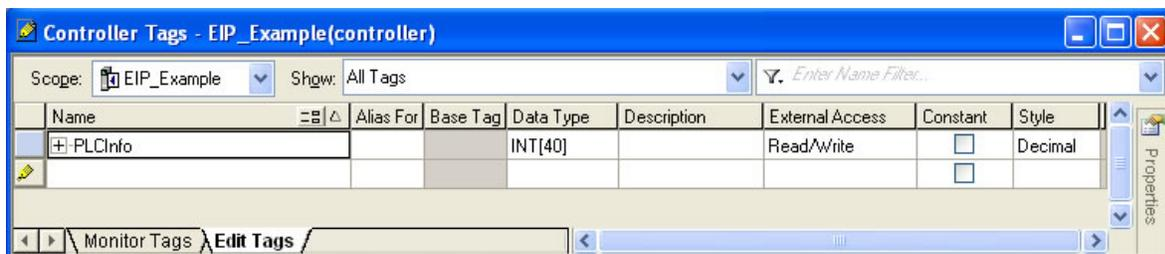

Figure 3: Viewing the PLCInfo Tag
- The PLCInfo tag should now be visible in the “Controller Tags” window (refer to Figure 3).